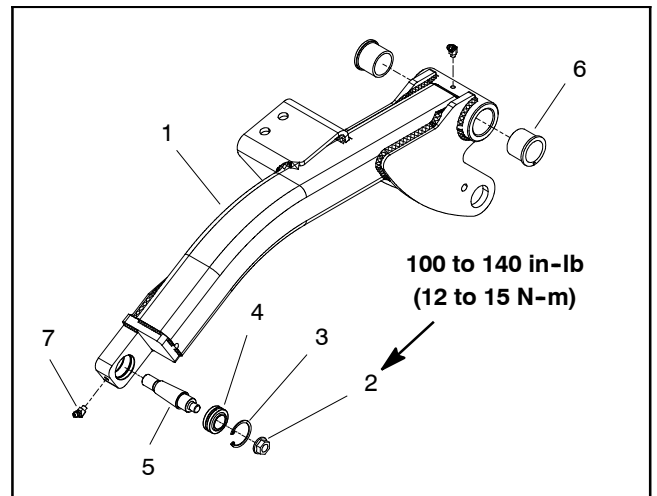

Figure 5
D. Remove tapered stud with spherical bearing from lift arm after removing retaining ring from lift arm (Fig. 5). Remove flange nut and spherical bearing from stud.
E. Press flange bushings from lift arm (Fig. 5).